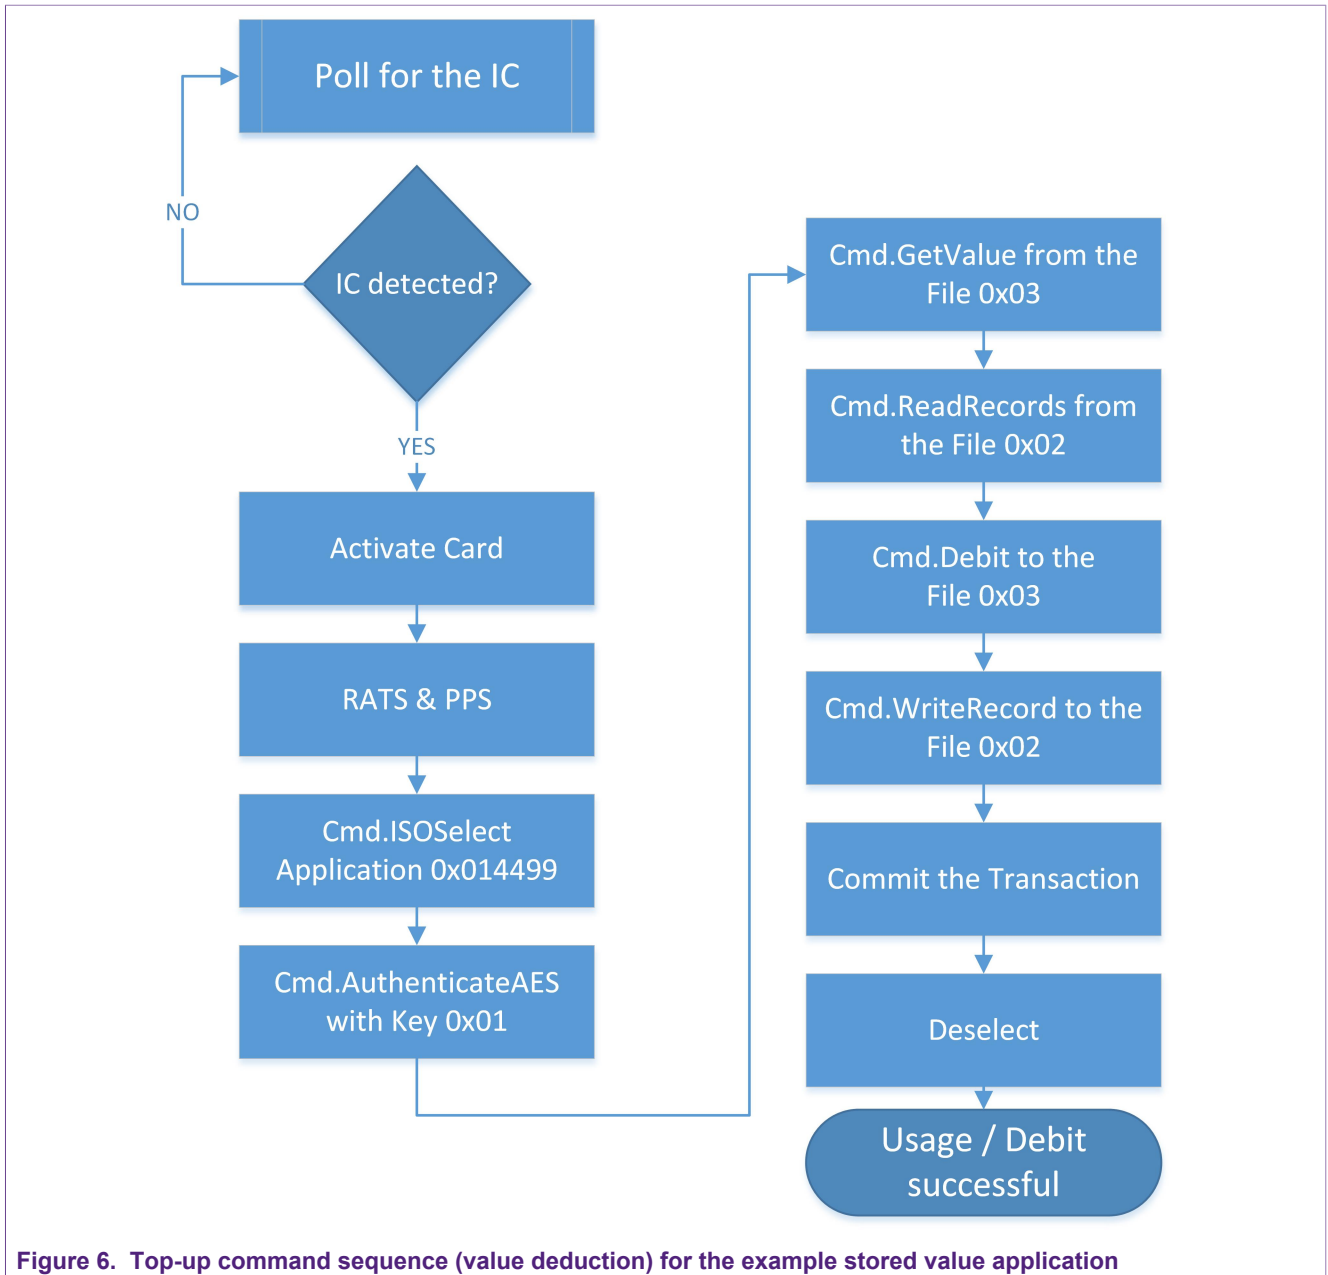

Figure 6. Top-up command sequence (value deduction) for the example stored value application
- Use the card at a transport reader or any other kind of terminal where an amount of the stored value is deducted (illustrated in Figure 6).
In Figure 6 the transaction which actually uses some value that is stored on the card and deducts it, is depicted. All the commands which are shown are triggered from a reader terminal that can be either online or offline. The commands are sent directly from the reader to the IC, without the need to have the mobile phone present.